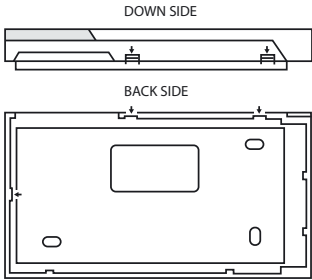

Fig. No. 3
1. Detach keyboard holder from EKB3W front side . Keyboard holder detach points are marked with arrows (see Fig. No. 3).